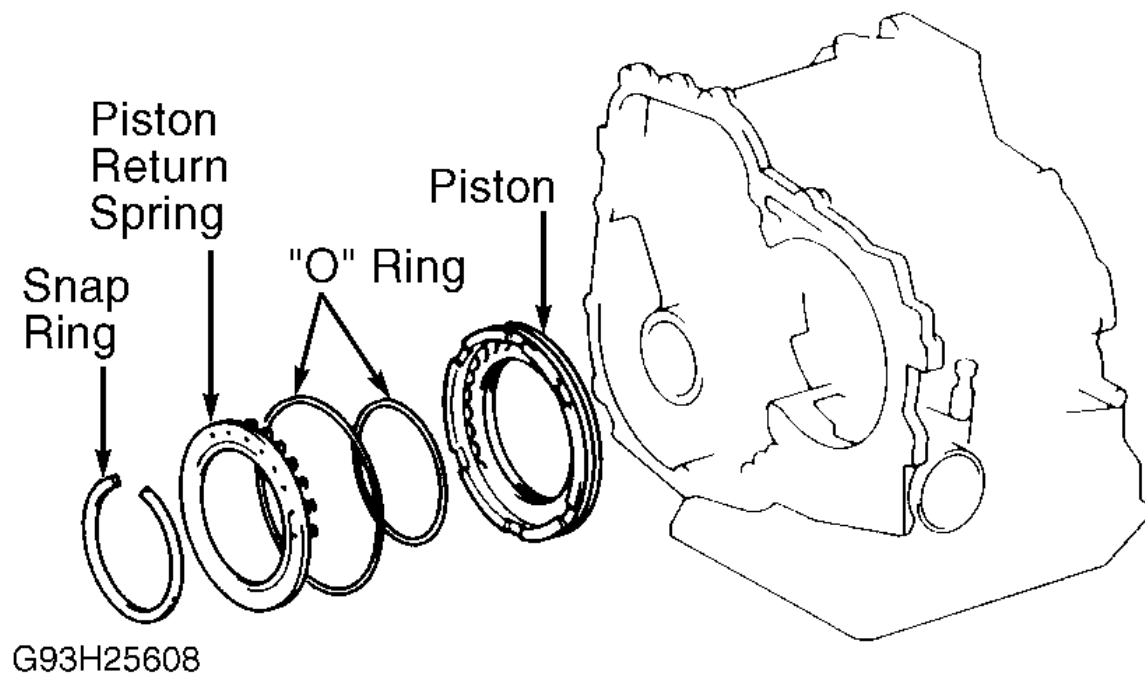

Fig. 42: Exploded View Of 1st & Reverse Brake Piston
1. Install NEW "O" rings on piston and coat with ATF. Install piston in transaxle case with spring seats facing upward. Install piston return spring assembly and snap ring in place. See Fig. 42 .